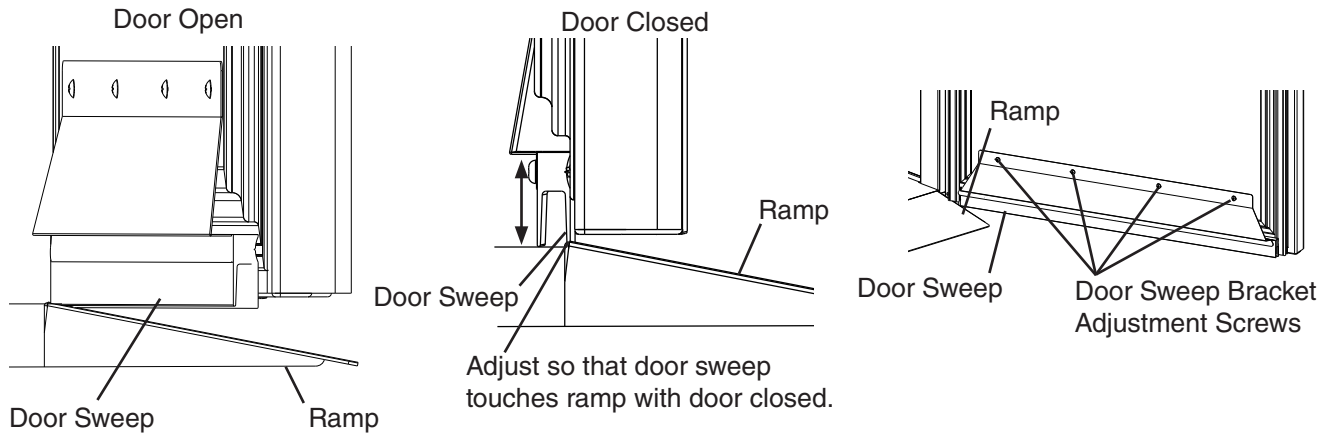

Fig. 13
5) Adjust the door sweep so that the door sweep touches the ramp when the door is closed. See Fig. 13. Once in its correct position, tighten the door sweep bracket adjustment screws.